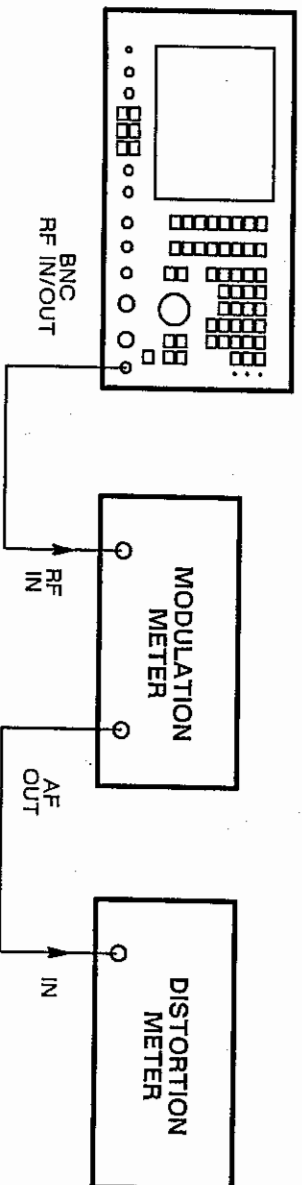

Fig. 6-24 Test equipment connections for RF generator AM distortion and FM distortion
- (1) Connect the modulation meter input to the RF IN/OUT BNC socket. Connect the modulation meter output to the distortion meter. See Fig. 6-24.